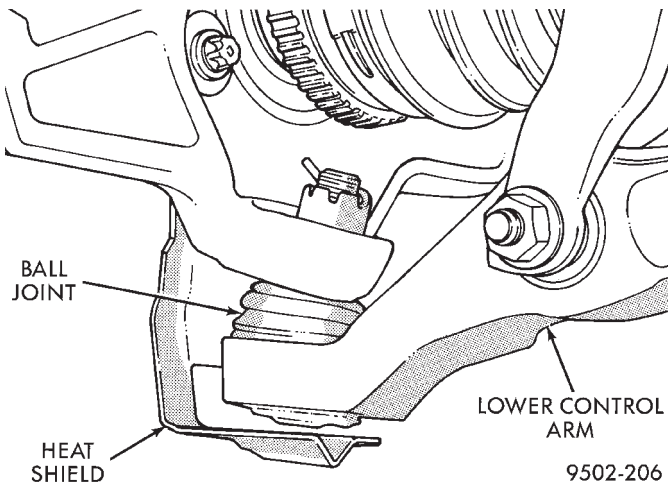

Fig. 50 Lower Ball Joint Heat Shield With 15 Inch Wheel
(1) Raise vehicle on jack stands or centered on a frame contact type hoist. See Hoisting in the Lubrication and Maintenance section of this manual, for the required lifting procedure to be used for this vehicle.
(2) Remove the tire and wheel assembly from the vehicle.
(3) **If the vehicle is equipped with 15 inch wheels the heat shield (Fig. 50) will need to be removed before the lower control arm can be separated from the steering knuckle. Use the following procedure to remove the heat shield.**
(5) Remove the 2 bolts attaching the heat shield (Fig. 50) to the steering knuckle. Remove heat shield from steering knuckle.
(11) **If vehicle is equipped with 15 inch wheels the heat shield (Fig. 50) MUST be installed on steering knuckle and mounting bolts securely tighten before rotor and caliper is installed on steering knuckle.**
(12) Install rotor on hub/bearing assembly.